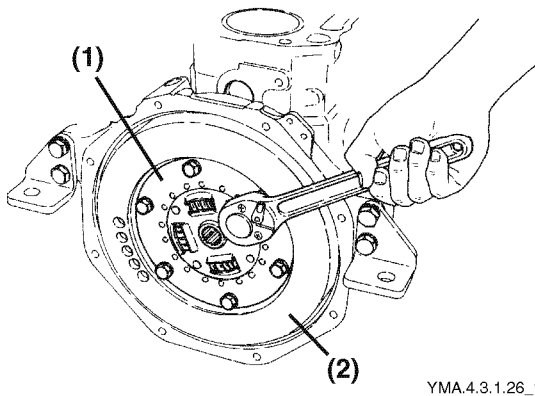

Figure 5-100
1. Lock the flywheel (Figure 5-100, (2)) with a flywheel holder and remove the damper disk bolts.
2. Remove the damper disk (Figure 5-100, (1)) from the flywheel.